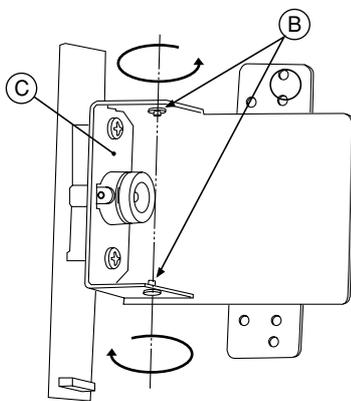
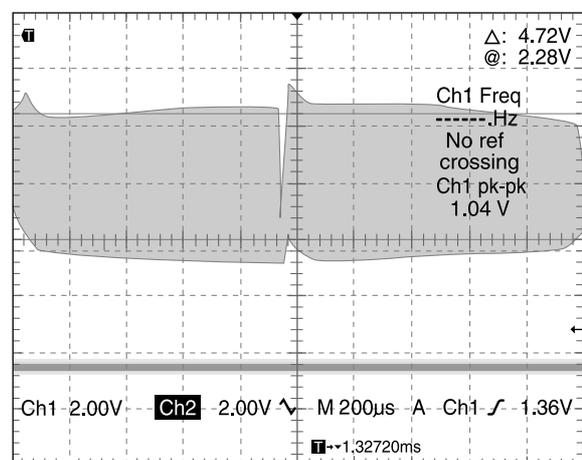

Fig. 8
Fig. 9
- Loosen screw B shown in Figure 8, move sheet metal C, and fix screw B when the waveform falls to the intermediate level as shown in Figure 9.